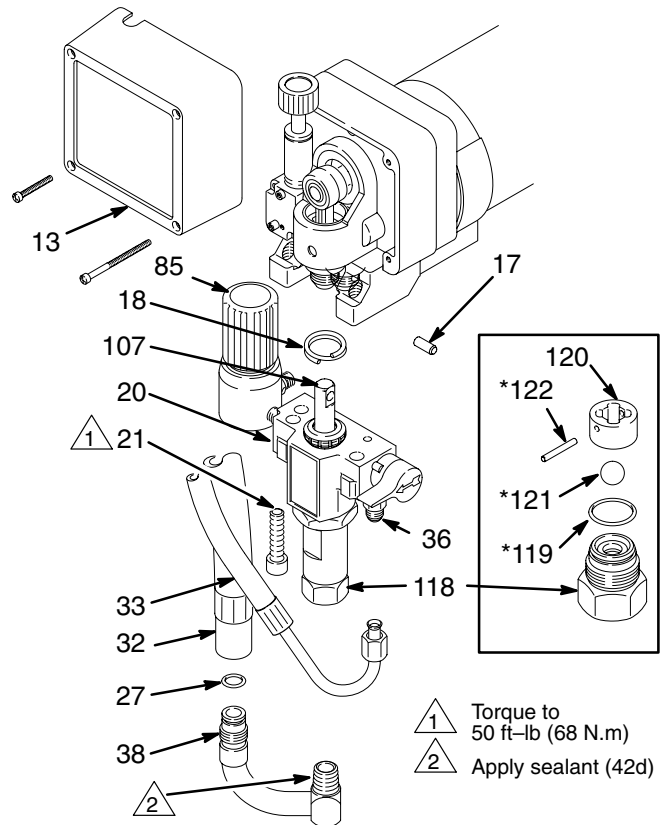

Fig. 16
6. Place a new brush (C) in the holder (B) so the ramp (H) faces the spring. See Fig. 16.
## Removing the pump (See Fig. 16.)
## Installing the pump (See Fig. 16 and 17.)
## Intake valve repair (See Fig. 16)